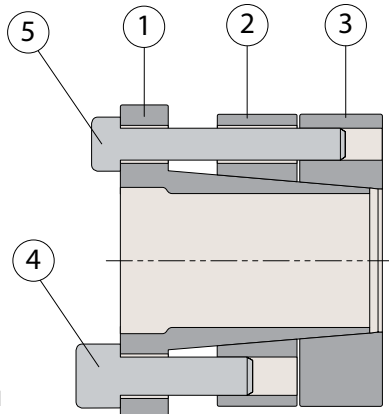

Figure 1
(Refer to Figure 1)
2. Loosen all locking screws by a minimum of two (2) turns and transfer at least two (2) larger screws (item 4) into push-off threads in the collar (item 1) in order to keep tapers of Parts 1, 2 and 3 disengaged during assembly (see Figure 1).
4. Hand tighten all locking screws and confirm that flanged collar (item 1) is parallel and in full contact with face of part to be attached to shaft.
5. Use a torque wrench and set to approximately 5% higher than specified tightening torque M_a for large screws (item 4). Tighten large locking screws in a clockwise or counterclockwise sequence (it is not necessary to tighten in a diametrically opposite pattern), using only 1/4 (i.e., 90°) turns for several passes until 1/4 turns can no longer be achieved.
7. Repeat steps 5 and 6 for smaller locking screws (item 5), but setting 5% higher of specified tightening torque M_a for the smaller screws.